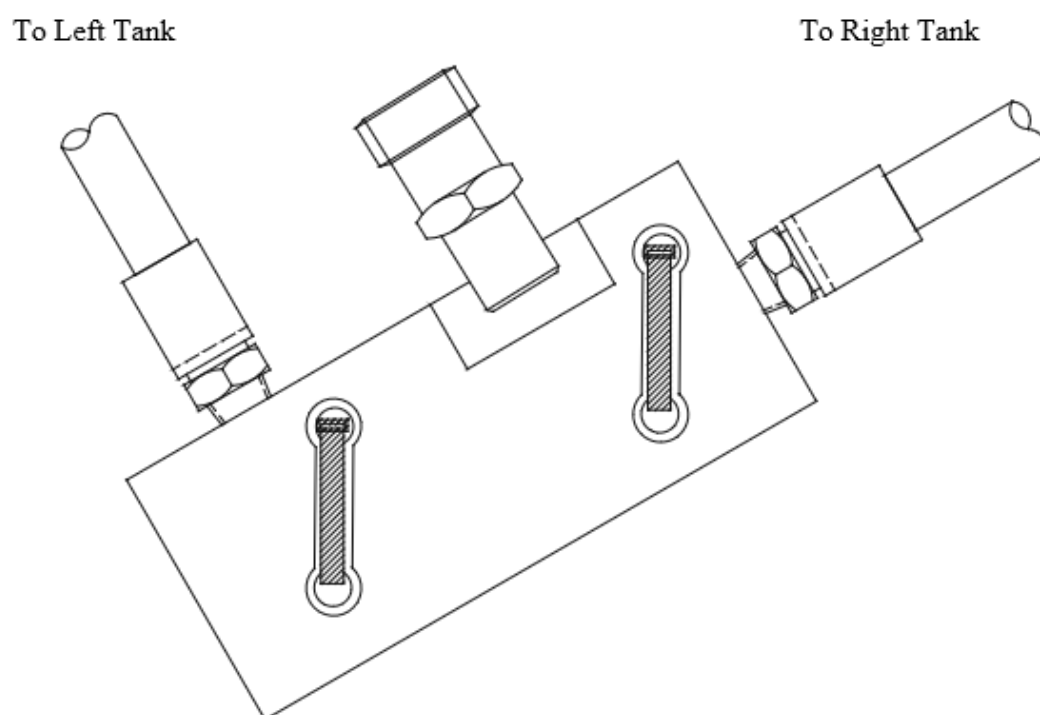

Figure 7
- _____ 9. Mount the manifold in the position determined in step 8. Use two 5/16" nylon cable ties to snugly attach the manifold to the basket wall. See figure 7. The extra cable ties are included in case of breakage or a mounting mistake.